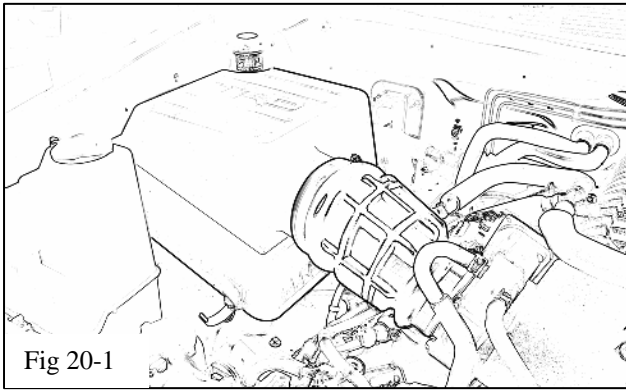

Fig 20-1
- (c) Clip the supplied air box lid onto the air box base, and attach the inlet hose to the upper air box. Position the inlet hose so that it is in a natural position. Tighten the hose clamps (Fig 20-1). **Torque: 4 Nm (35 in lbf)**